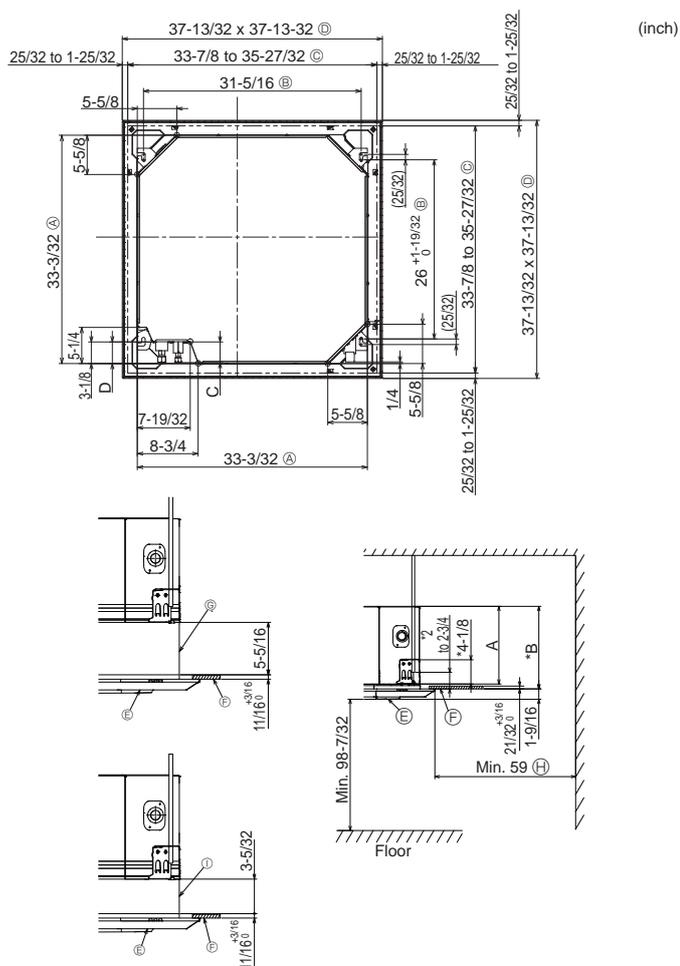

Fig. 2-2
2.2. Ceiling openings and suspension bolt installation locations (Fig. 2-2)
- * The dimensions of ceiling opening can be regulated within the range shown in Fig. 2-2; so center the main unit against the opening of ceiling, ensuring that the respective opposite sides on all sides of the clearance between them becomes identical.
- Ⓐ Outer side of main unit Ⓔ Grille ① 3D total flow (option)